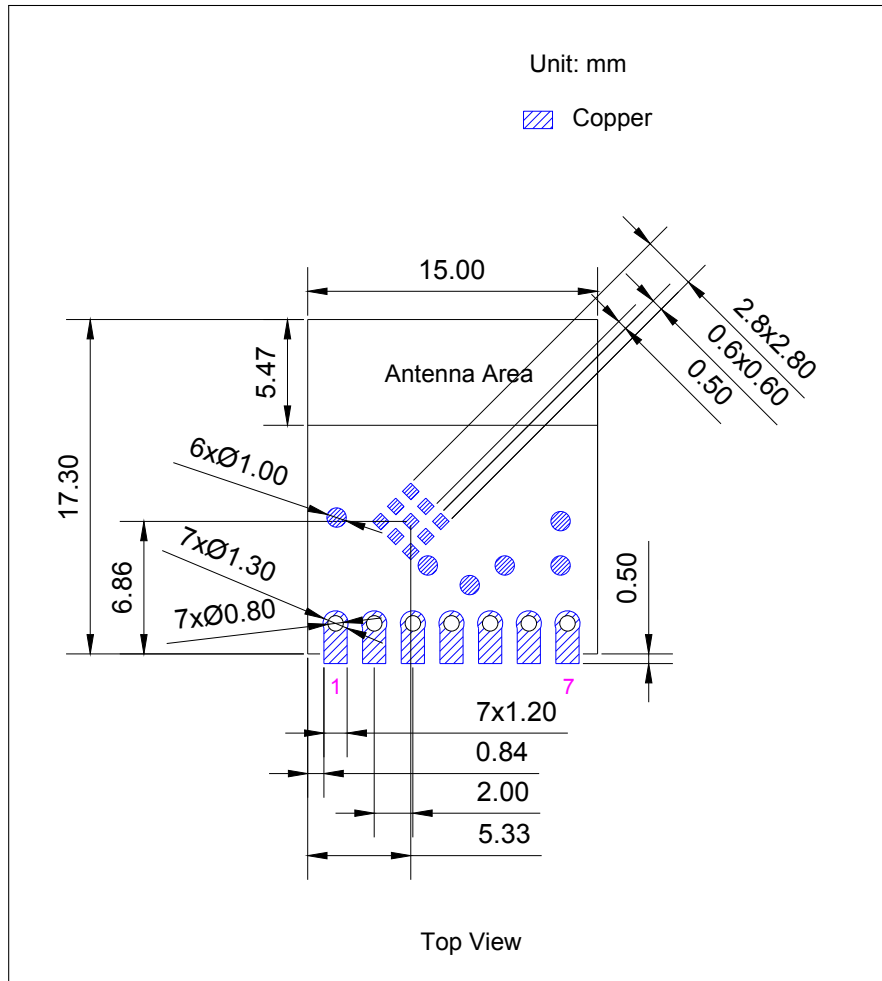

Figure 11-1. Recommended PCB Land Pattern
- Figure for the recommended PCB land pattern with all the dimensions needed for PCB design. See Figure 11-1 *Recommended PCB Land Pattern*.
- Source file of the recommended PCB land pattern to measure dimensions not covered in Figure 11-1. You can view the source files for ESP8685-WROOM-05 with Autodesk Viewer.